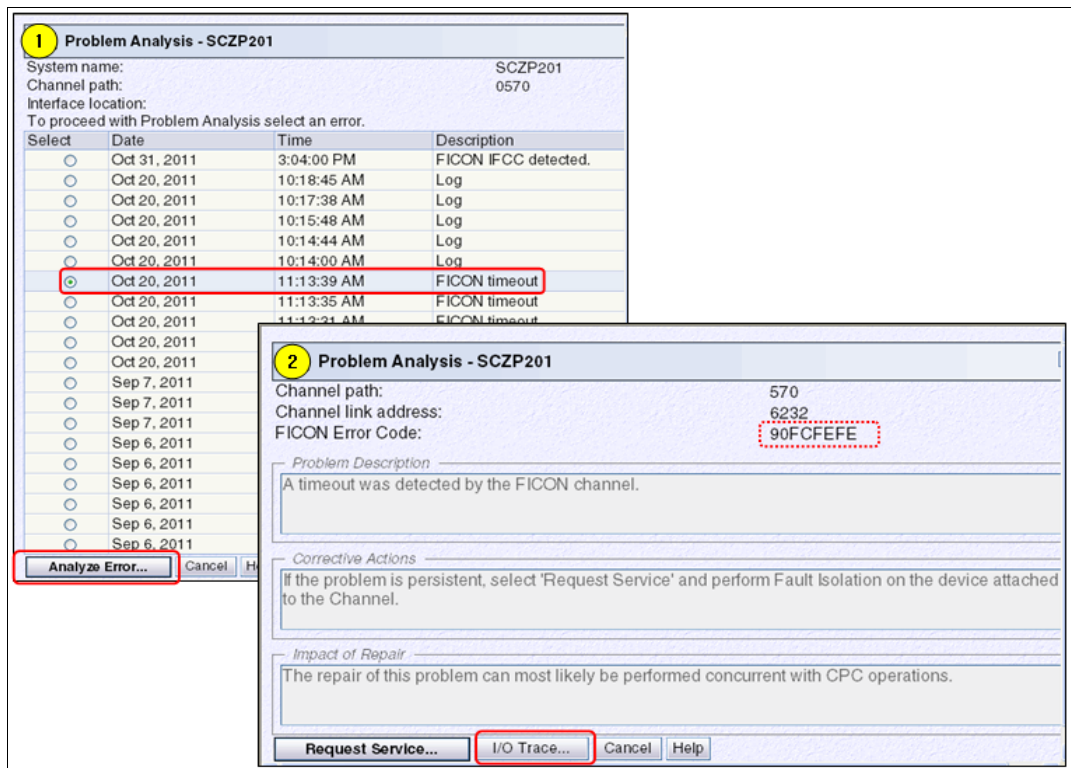
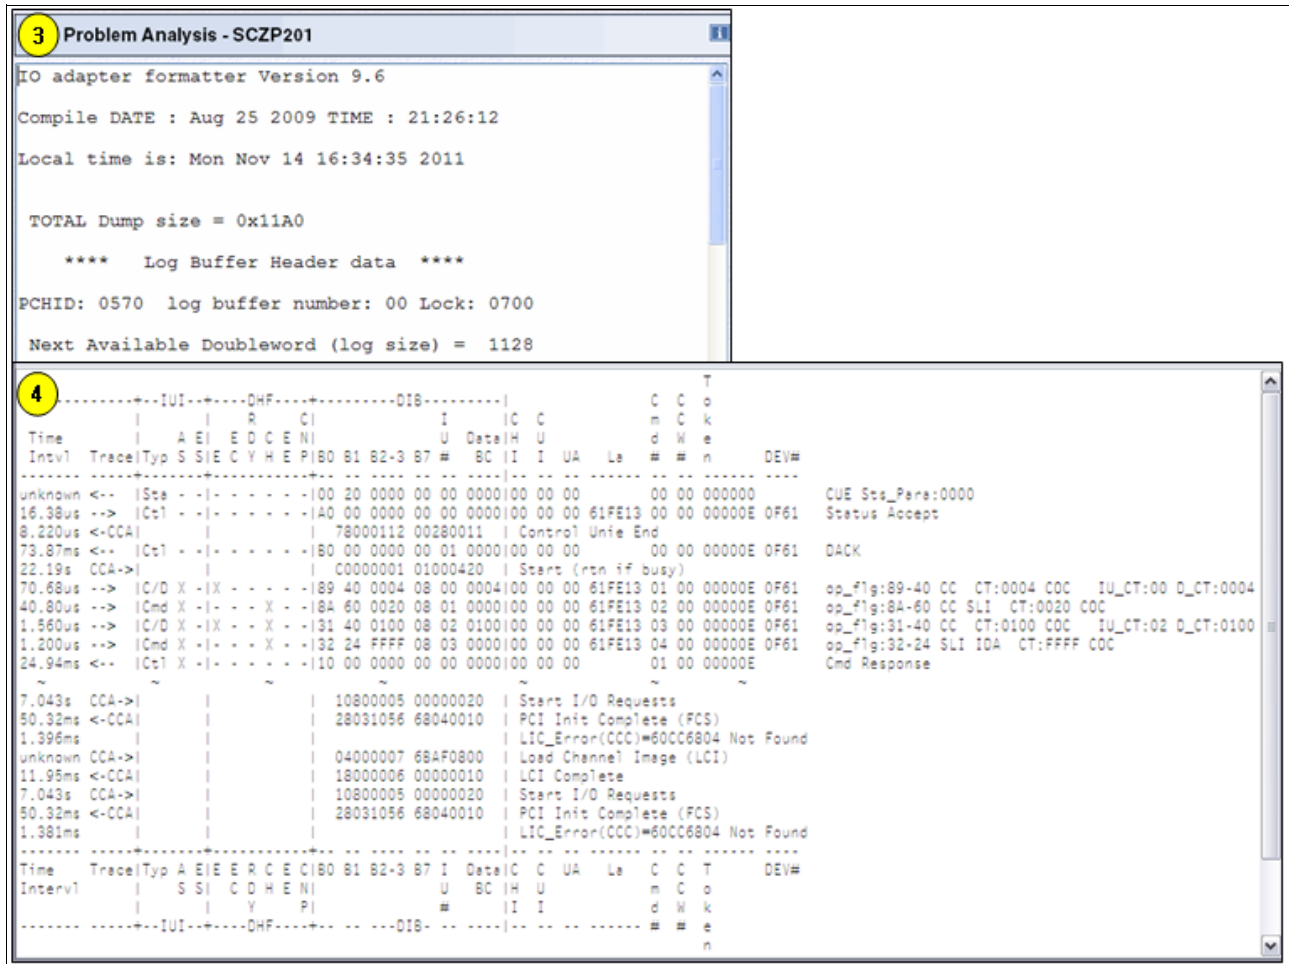

Figure E-24 FICON timeout error panel (1/2)
Figure E-25 FICON timeout error panel(2/2)
When you want to examine a FICON timeout error, follow these steps to open the FICON timeout error shown at the Figure E-24 on page 458 and Figure E-25 on page 459.
4. The Problem Analysis window gives an error code(90FCFEFE), which is a description of the causes of the error and a possible corrective action, as shown at Figure E-24 on page 458. To see the trace taken at the time of the error, click **I/O Trace** or **More information** depending on the panel, as shown at Figure E-25 on page 459.